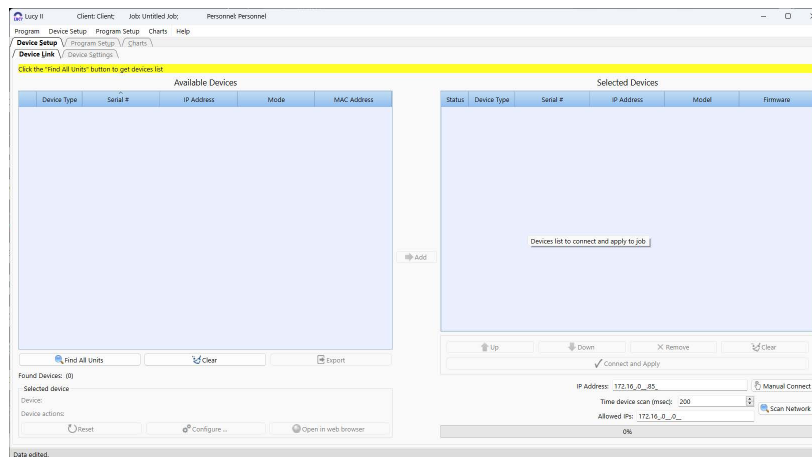

Figure 1-2 Device Setup – Device Link Tab
5. Select tab “Device Setup”, then “Device Link” (Figure 1-2).
6. Click on the “Find all units” button (Figure 1-2) to retrieve a list of the devices on the network. If you need to access to remote devices, see section on: “Remote Device Connection”.